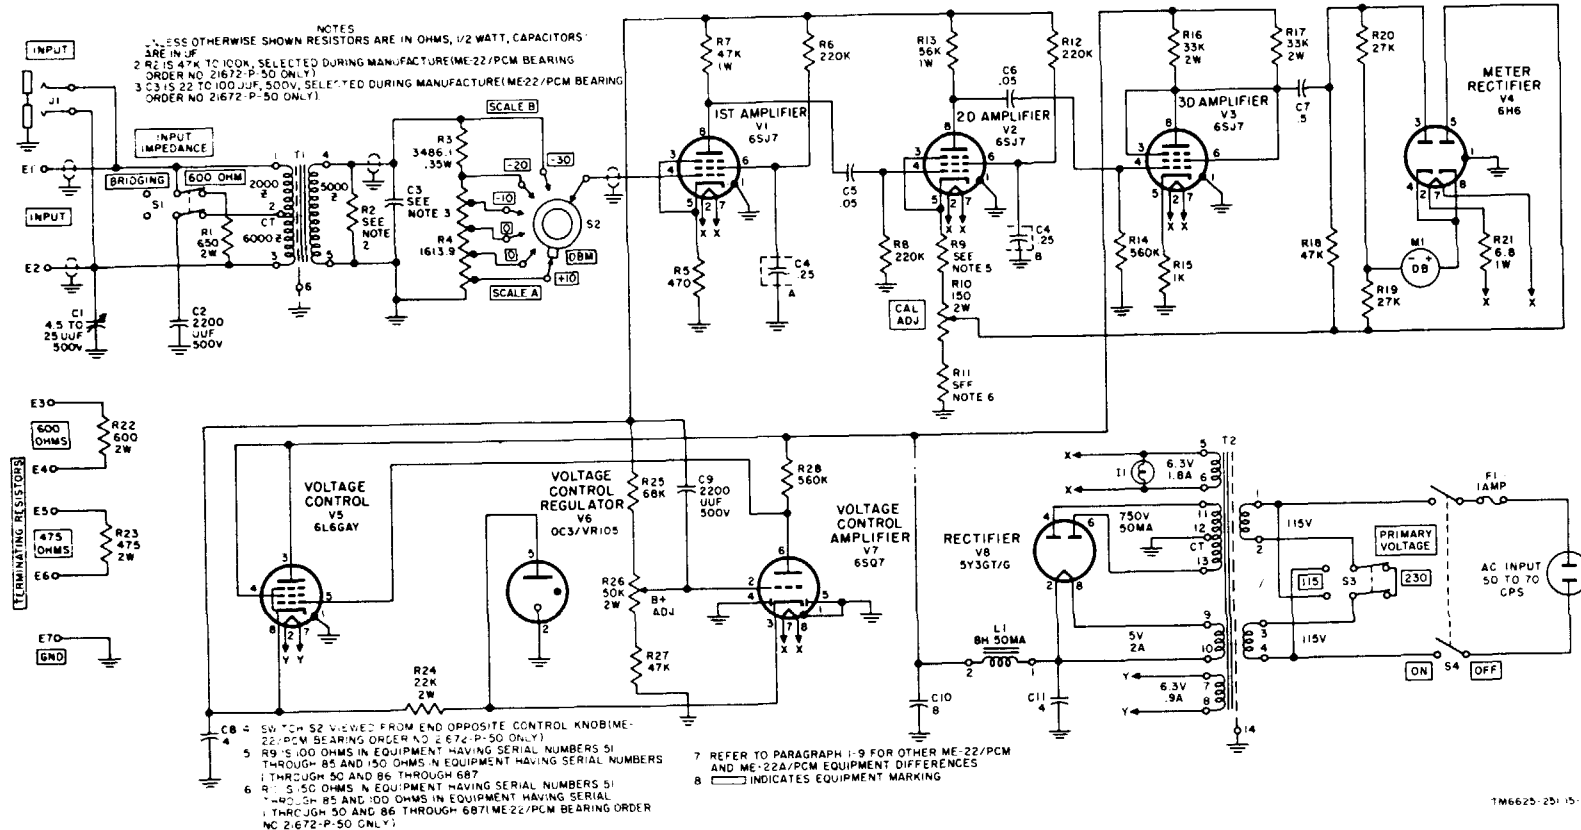

Figure 5-3. Decibel Meter ME-22(*)/PCM, schematic diagram.
in paragraphs 5-13 through 5-17. In addition, refer to the schematic diagram (fig. 5-3).
c. First, Second, and Third Amplifier Stages. The first, second, and third amplifier stages are three conventional amplifier stages connected in cascade. They consist of tubes V1, V2, and V3, each of which is a sharp cutoff pentode. Tube V3, however, is operated as a triode with the suppresser and screen grids tied to the plate. The attenuated signal from the equipment under test is coupled directly from DBM switch S2 (fig. 5-3) to the control grid of first amplifier tube V1. The amplified signal at the plate of tube V1 is applied through capacitor C5, to the control grid of second amplifier tube V2 and, in like manner, the amplified signal at the plate of tube V2 is applied, through capacitor C5, to the control grid of third amplifier tube V3. The output of tube V3 is applied to one side of the meter rectifier. In addition, an output voltage from the cathode circuit of second amplifier tube V2 is applied to the other side of the meter rectifier through CAL ADJ potentiometer R10.
d. Meter Rectifier Circuit. The meter rectifier circuit consists of tube V4, meter M1, and associated circuit elements. Tube V4 is a twin diode operated as a full-wave rectifier and connected in a bridged circuit with resistors R19 and R20 and meter M1. The output voltage from the cathode circuit of second amplifier tube V2 is applied to one side of the rectifier circuit through CAL ADJ potentiometer 10 (fig. 5-3); the amplified signal from the plate of third amplifier tube V3 is applied to the other side of the rectifier. The voltage from the plate of tube V3 and the voltage from the cathode of tube V2 are alike in phase. However, the plate voltage exceeds the cathode voltage and produces a voltage across the rectifier circuit alternately positive and negative. The voltage produced across the rectifier circuit is rectified and current flows in the same direction through resistor R11. Feedback voltage produced in the cathode circuit of tube V2 is controlled by the setting of CAL ADJ potentiometer R10 (fig. 5-3). Thus the setting of the CAL ADJ potentiometer controls the adjustment of the 0 dbm level of meter M1.
e. Power Supply. (fig. 5-3). Line voltage is applied to the primary of transformer T2 when